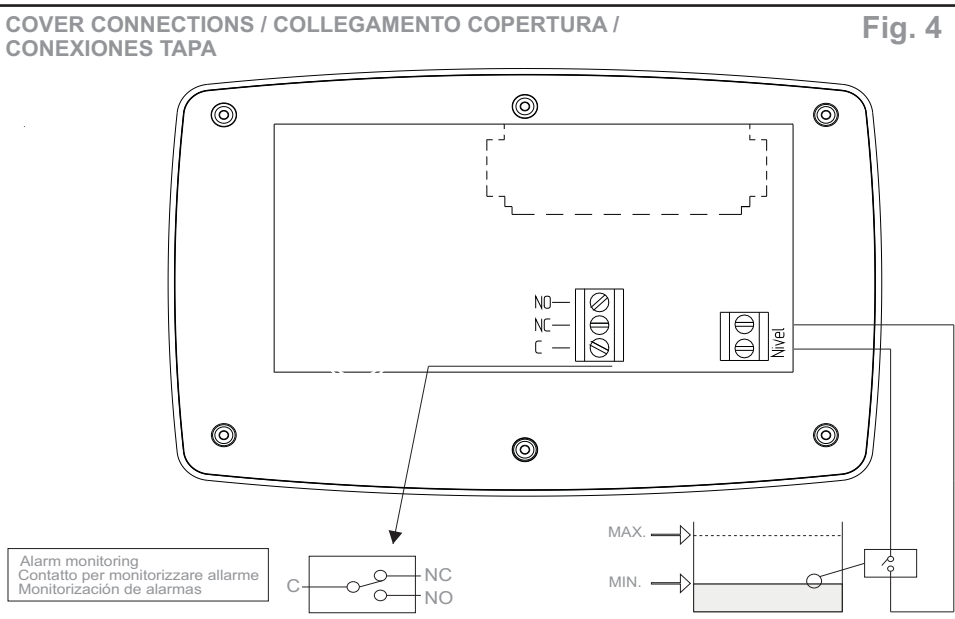

Fig. 4
- Alarm monitoring: the **SPEEDMATIC ALT** has a volt-free contact with 1 A of maximum intensity for the transmission of diferent types of signal (optical, acoustics, etc) when detects some failure that previously has been displayed in the LCD screen. For its connection to see Fig. 4.
- Min. level control: there is an input for the stop of all the pumps as soon as is disconnected the external switch of minimum level. See Fig. 4.